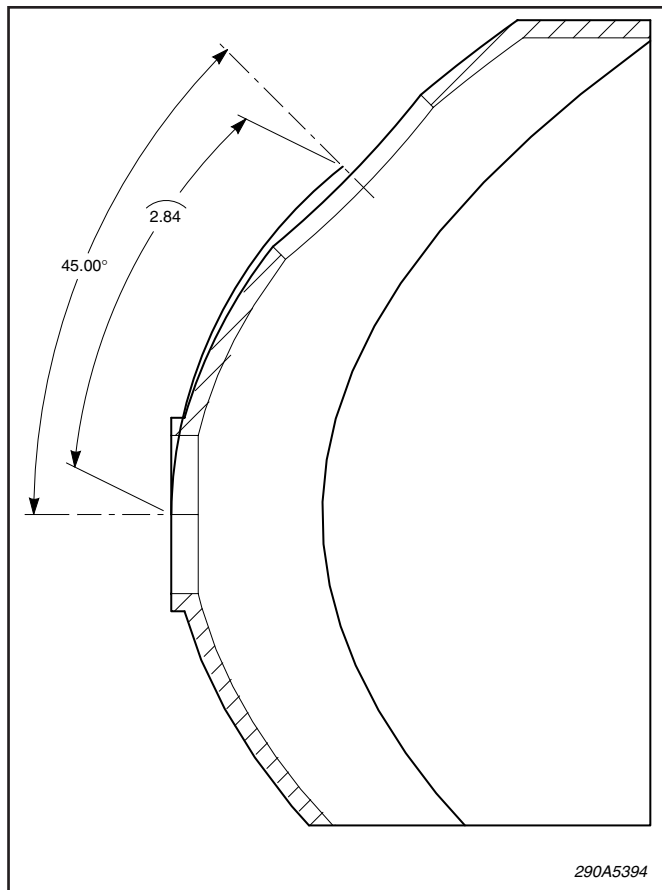

Figure 1.
2. Cut-out the included hole template. See figure 1. Position the template so that the smaller hole is centered on the hole for the back-up lamp socket. Mark the center of the 1-1/2" diameter hole.
3. To aid cutting, remove the boss surrounding the vent hole then using a hole saw, drill the 1-1/2" hole at a 45-degree angle as shown in figure 1.